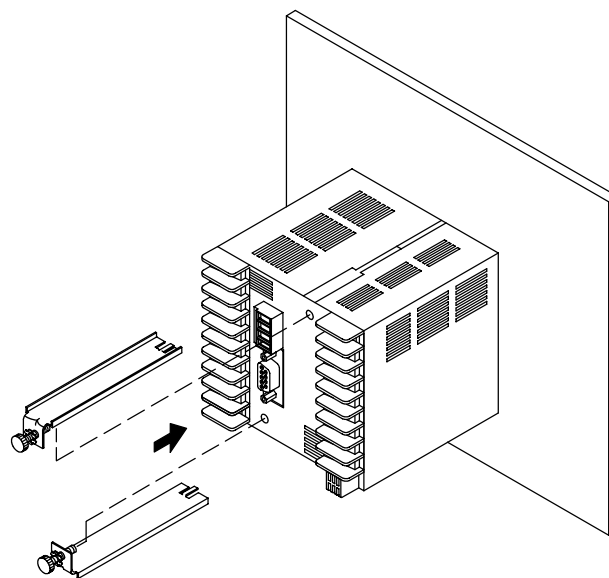

Fig. 34
2. From the back of the E5AX, attach the mounting brackets into the channels running back to front along the top and bottom of the E5AX. See Fig. 34 for the proper configuration.